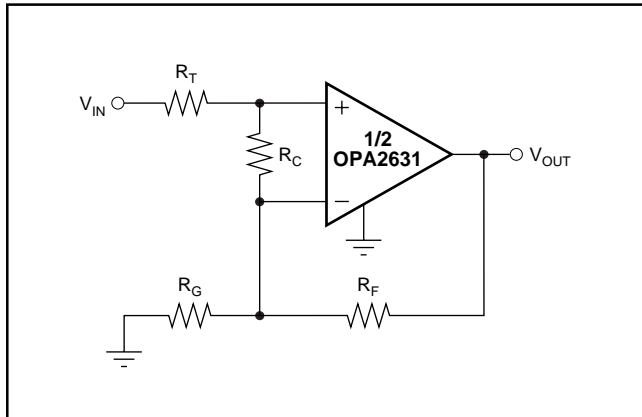

FIGURE 6. Compensated Non-Inverting Amplifier.
Figure 6 shows a non-inverting amplifier that reduces peaking at low gains. The resistor R_C compensates the OPA2631 to have higher Noise Gain (NG), which reduces the AC response peaking (typically 5dB at $G = +1$ without R_C) without changing the DC gain. V_{IN} needs to be a low impedance source, such as an op amp. The resistor values are low to reduce noise. Using both R_T and R_F helps minimize the impact of parasitic impedances.
Since the OPA2631 is a voltage-feedback op amp, a wide range of resistor values may be used for the feedback and gain setting resistors. The primary limits on these values are set by dynamic range (noise and distortion) and parasitic capacitance considerations. For a non-inverting unity gain follower application, the feedback connection should be made with a 20Ω resistor, not a direct short (see Figure 6). This will isolate the inverting input capacitance from the output pin and improve the frequency response flatness. Usually, for $G > 1$ application, the feedback resistor value should be between 200Ω and $1.5k\Omega$. Below 200Ω , the feedback network will present additional output loading which can degrade the harmonic-distortion performance. Above $1.5k\Omega$, the typical parasitic capacitance (approximately $0.2pF$) across the feedback resistor may cause unintentional band-limiting in the amplifier response.
The criterion for setting this R_S resistor is a maximum bandwidth, flat frequency response at the load. For a gain of +2, the frequency response at the output pin is already slightly peaked without the capacitive load, requiring relatively high values of R_S to flatten the response at the load. Increasing the noise gain will also reduce the peaking (see Figure 6).